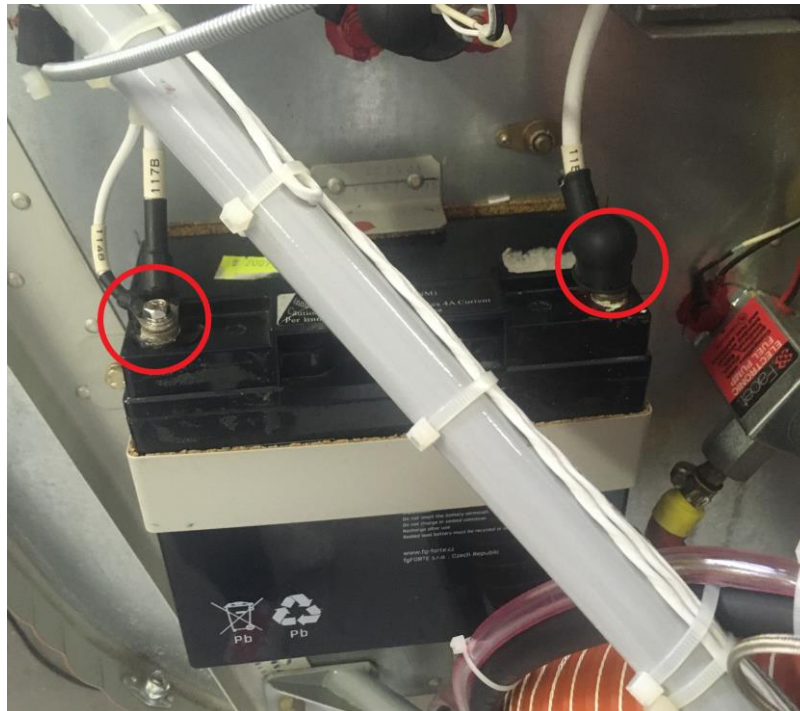

Fig. 31: Battery connection
29) Reconnect the battery, see beginning of SB on battery disconnection. (See Fig. 31)